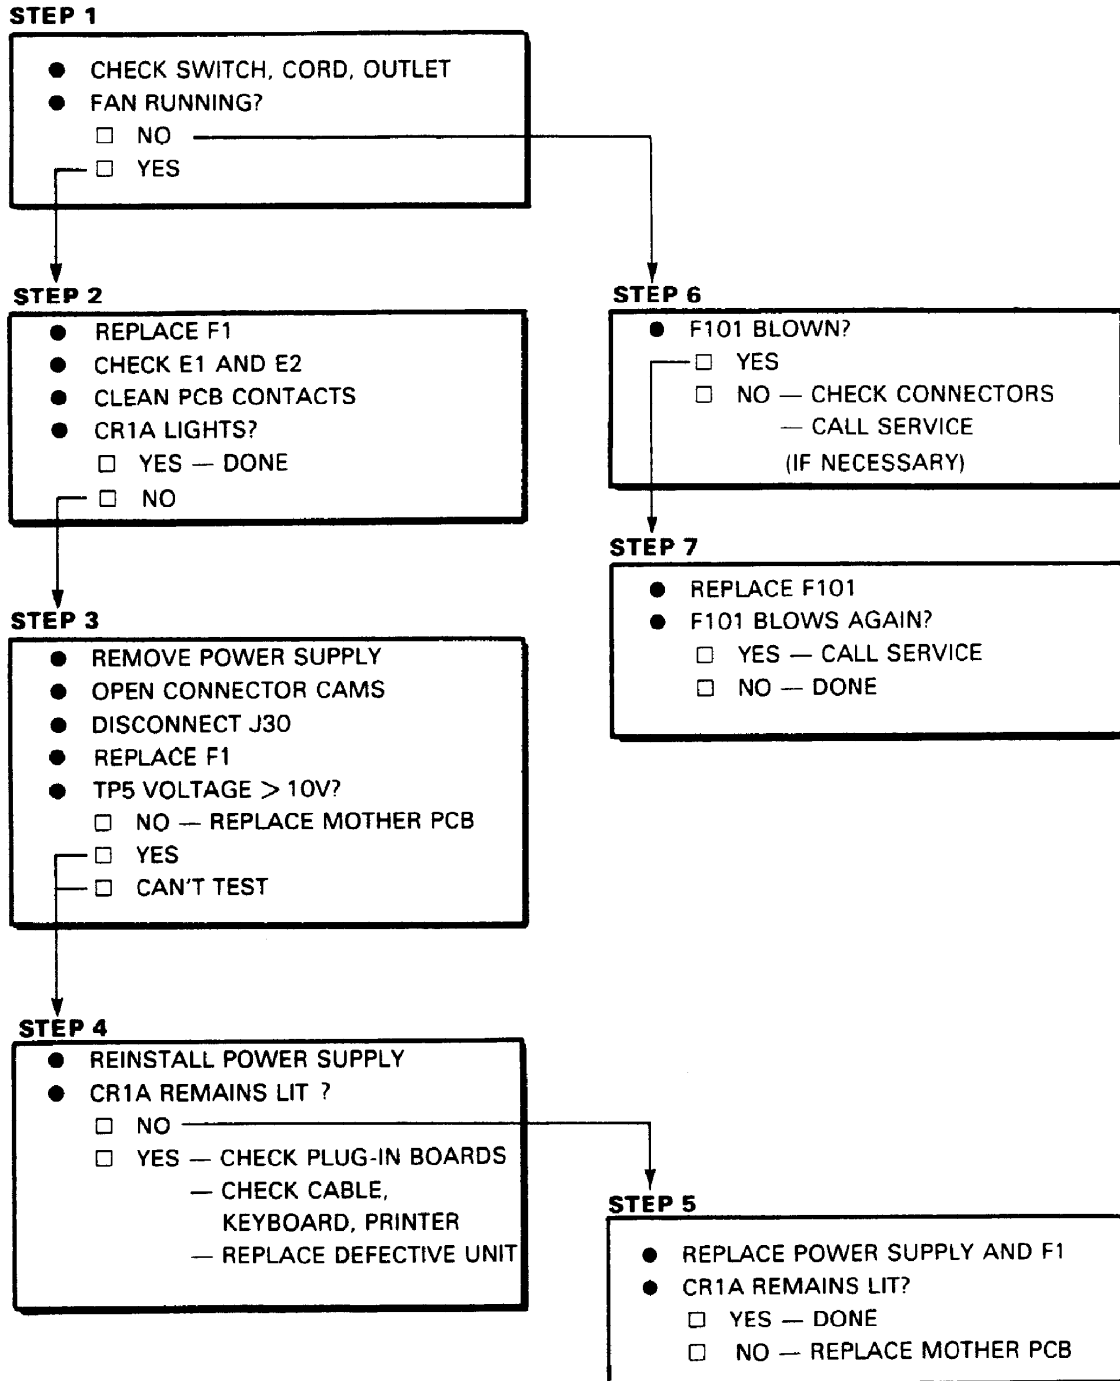

Figure 2
For an overview of the procedures described in this paragraph, see Figure 2. Check off the boxes provided in the figure as you complete each step described in the text.
- Step 6:** (From Step 1 only — fan not running.) Check fuse F101 on the rear panel (see Figure 2 in the **Installation** section for location). If it is blown, skip ahead to Step 7. If not, check that there are plugs securely fastened to J27, J28, and J29 on the Mother PC Board, and that the fan has a power cable attached to it. If these checks do not solve the problem, call Customer Support.